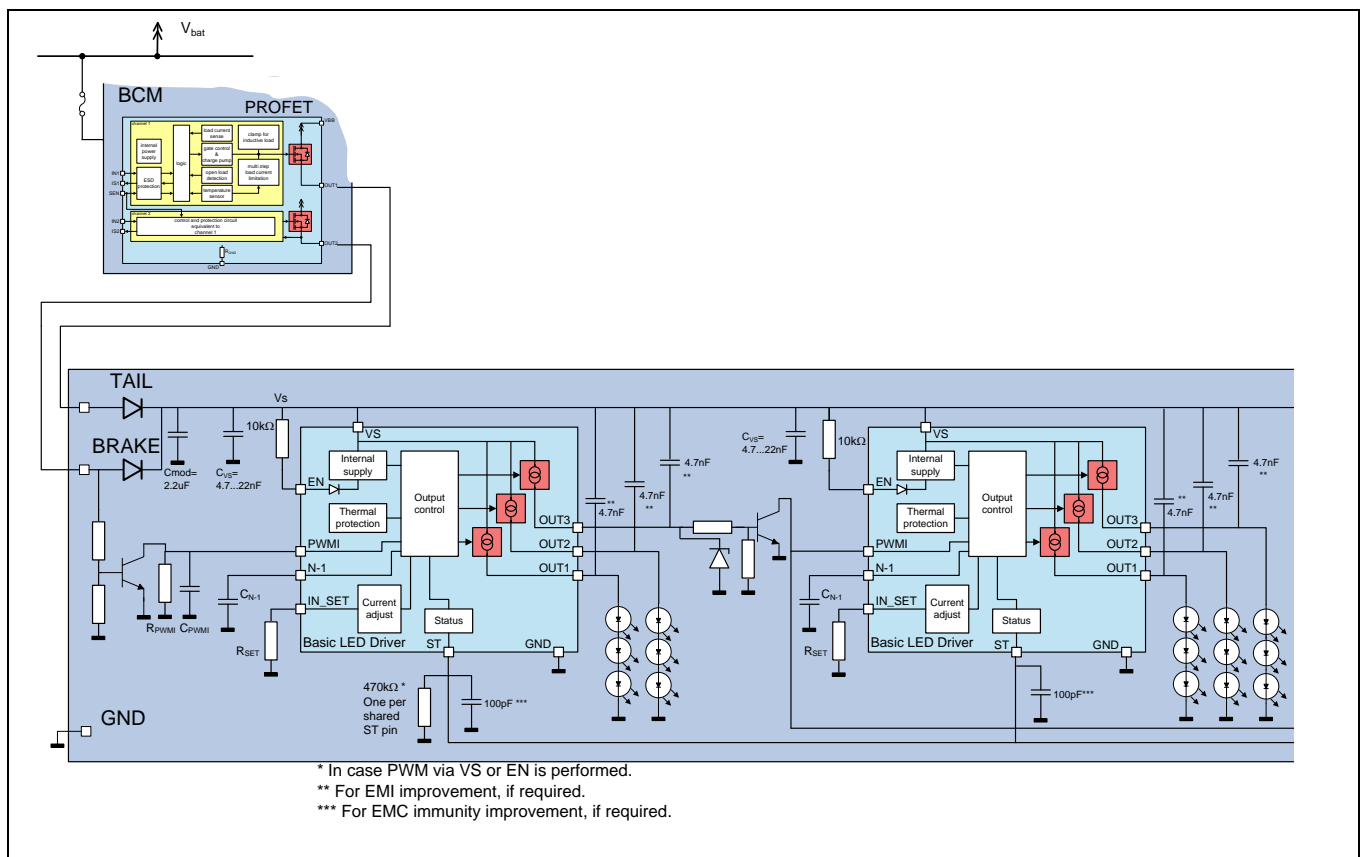

Figure 48 Application Circuit using internal PWM unit to provide 2 level brightness control (TLD1315)
- A possible application circuit using the PWMI pin for a 2 level brightness control application is shown in Figure 48. This particular example is for a brake and tail light application.